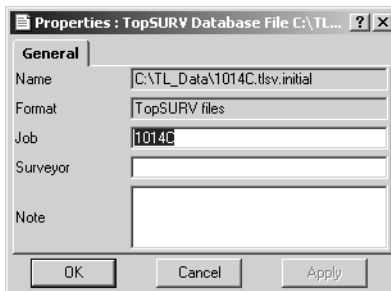

Figure 4-22. Properties for TopSURV File
- TopSURV files – displays the file name, path to the opened file, file format, job name, and surveyor's name (Figure 4-22).